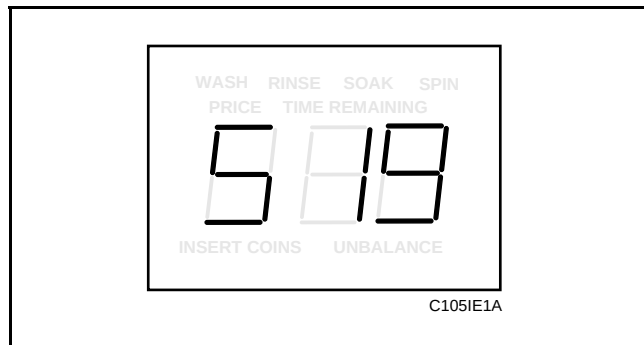

Figure 73
2. While pressing and holding the PERM PRESS keypad with one hand, press the COLD keypad with the other hand. Programmable option number one, “Slg”, will appear in the VFD. See **Figure 73**.